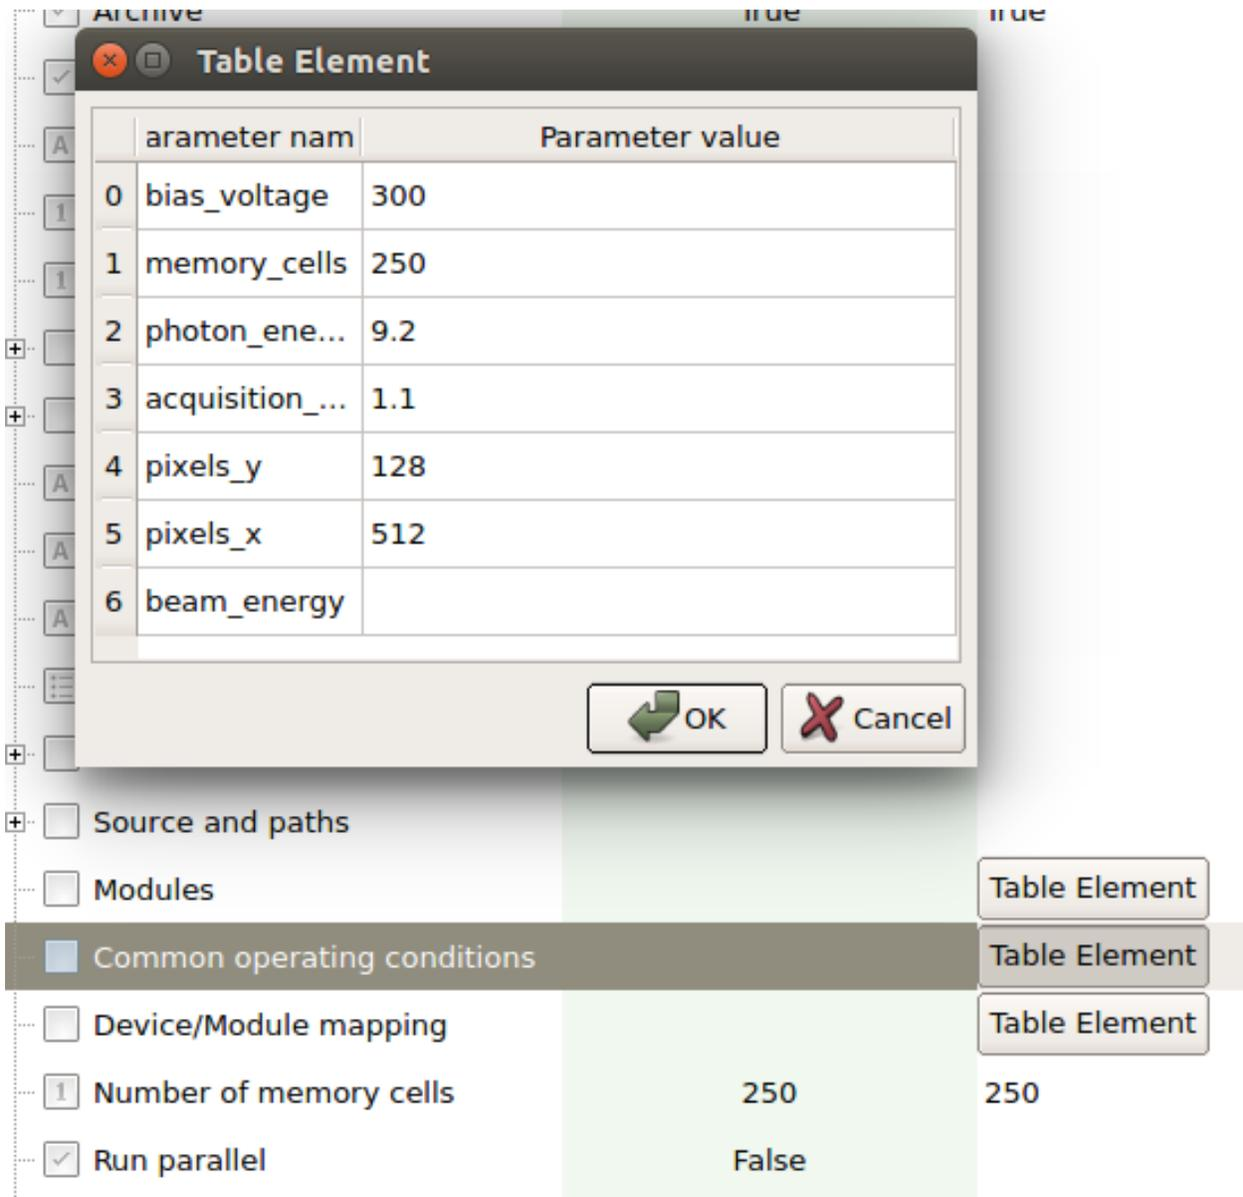

Fig. 11.2: Example of common operating conditions for the SPB AGIPD.
- detector operating settings do not match anything in the database. To investigate this, first check the the common operating conditions set on the *CAL_MANAGER* device if they are what you expect (if you know what to expect that is). An example is shown in Fig. 11.2. Note that *beam_energy* should usually be empty. Also you do not want any fields to display “None”. If this is the case, delete “None” such that the field is empty, or set it to a value.